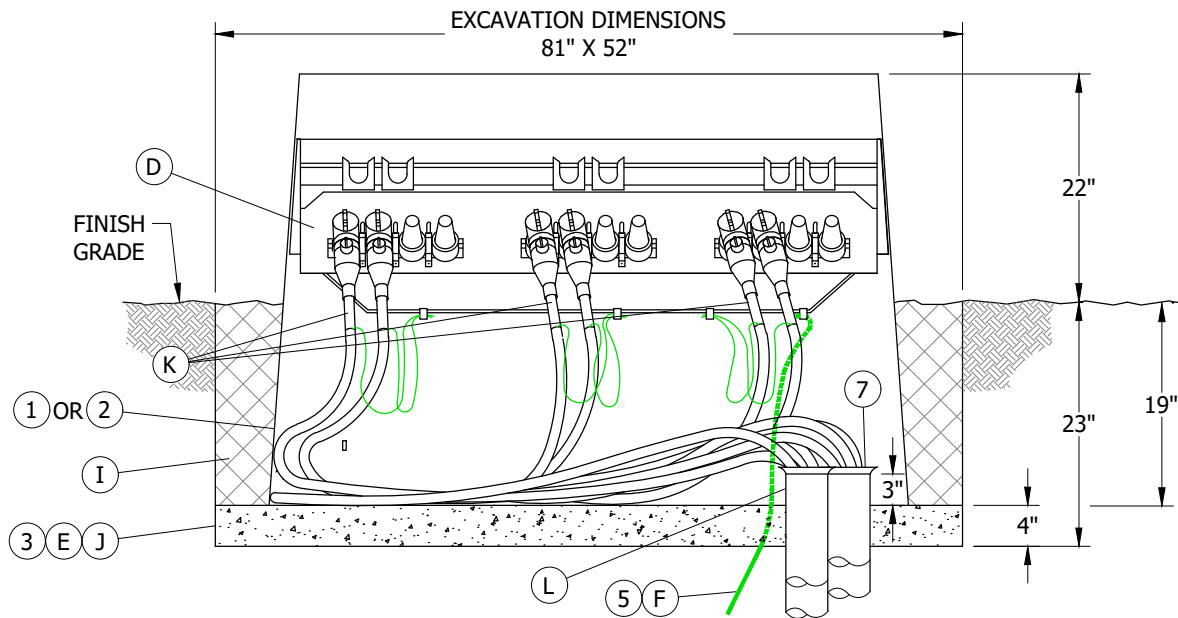

FIGURE 3
- C. PLACE PRIMARY CONDUITS WITH PEDESTAL SHOWN IN **FIGURE 3**. TERMINATE PRIMARY CONDUITS THREE INCHES ABOVE GRAVEL BASE. DO NOT CUT INTO THE CURVE PORTION OF ELBOWS.
- (D) 3-4 WAY CABLE TAPS INCLUDED WITH ITEM 1. ADD CABLE TAPS SEPARATELY WHEN INSTALLING ITEM 2.
- (E) WHERE SOIL GASES ARE OF CONCERN, OMIT THE GRAVEL AND INSTALL AN EQUIPMENT PAD VAPOR BARRIER.
- (F) INSTALL TRENCH GROUND PER UG4510.
- (J) COMPACTED CLEAN NATIVE SOIL.
- (K) INSTALL TAGS PER UG3202.
- (L) INSTALL TAGS PER 3203.
- (M) THE DEADFRONT CABLE JUNCTION PEDESTALS PREFERRED INSTALLATION IS AS FOLLOWS.